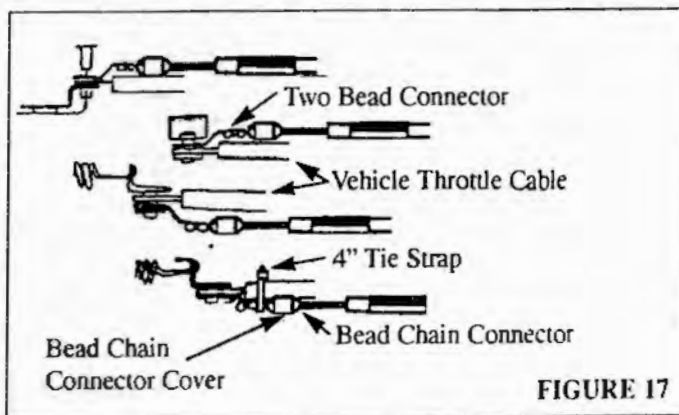

FIGURE 17
4. The **Two Bead** may need to be bent so that it clears the throttle cable. (Figure 17) Also, the **4" Tie Strap** can be used to hold the **Two Bead Connector** to the sleeve of the throttle cable. (Figure 17)